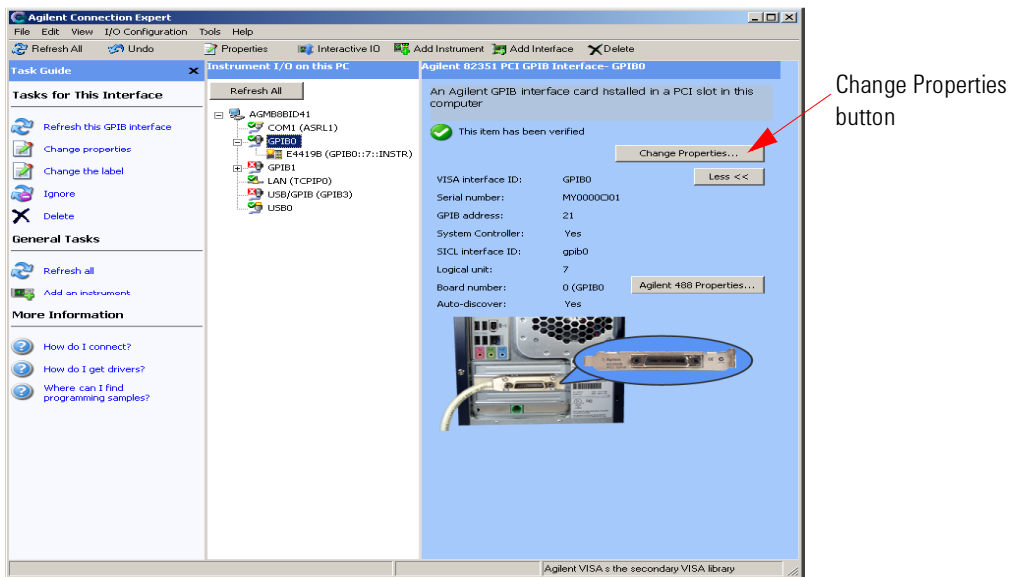
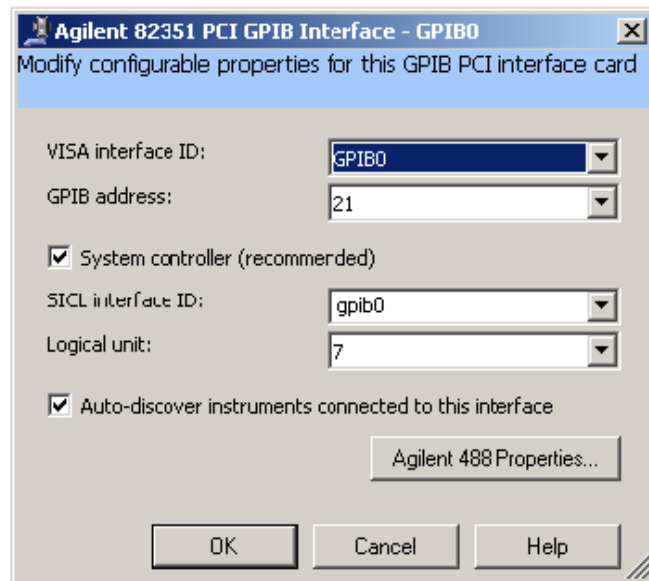

Figure 1-11 Agilent Connection Expert window
Figure 1-12 Agilent 82351 PCIe GPIB Interface dialog box
- 1 Open Connection Expert.** Click the **IO** icon on the Windows taskbar, the Agilent Connection Expert window will appear as shown in Figure 1-11. Highlight the GPIB interface in the explorer view (tree view at the center of the window) and click **Change Properties...** to display the Agilent 82351 PCIe GPIB Interface dialog box as shown in Figure 1-12.
2 Configure GPIB Card Parameters. When the Agilent 82351 PCIe GPIB Interface dialog box (Figure 1-12) appears, set the **VISA interface ID**, **SICL interface ID**, **Logical unit** and **GPIB address** values as required.